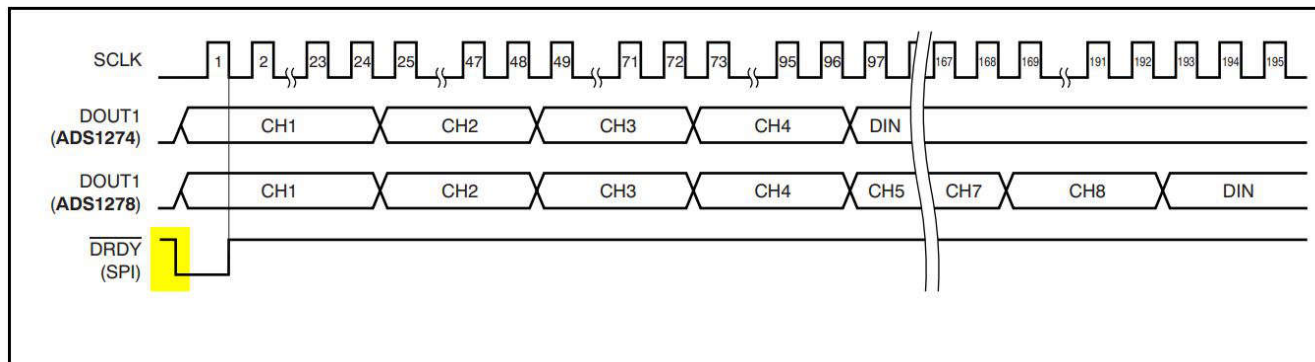

Figure 2-11. ADS1278 $\overline{\text{DRDY}}$ Pin Behavior
5. Connect an I/O pin from the controller to the $\overline{\text{DRDY}}$ pin on header J6 on the EVM. $\overline{\text{DRDY}}$ is an output from the ADC, indicating when new data are ready to be clocked out of the ADC. As shown in Figure 2-11, the user-defined data collection routine monitors this pin (polling or interrupt) and only transfers data after a falling edge.